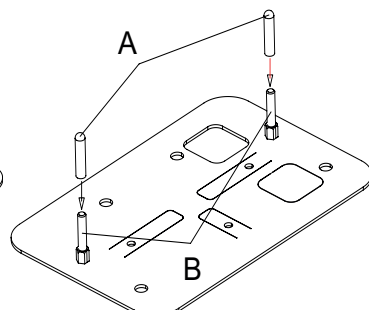

Fig. 4B
- 2) Fit the rubber plugs (ref. A) on to the screws M8x50 (ref. B) screwed into the plate (Fig. 4B). These plug are essential as they prevent the cement adhering to the screws, so that, if necessary, the screws may be removed in the future.